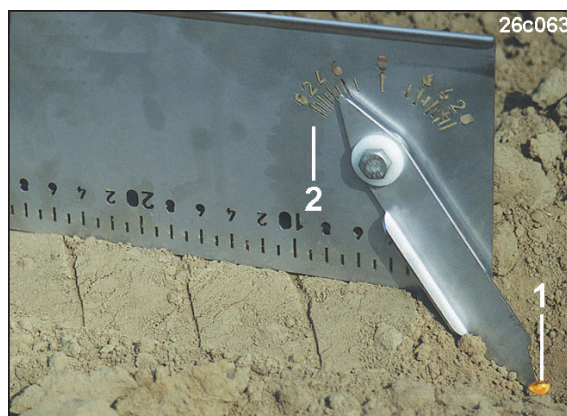

Fig. 186
3. Place the multi-placement tester (Fig. 186) horizontally on the ground
4. Place the indicator (Fig. 186/1) on the seed grain and read off the placement depth from the scale (Fig. 186/2).